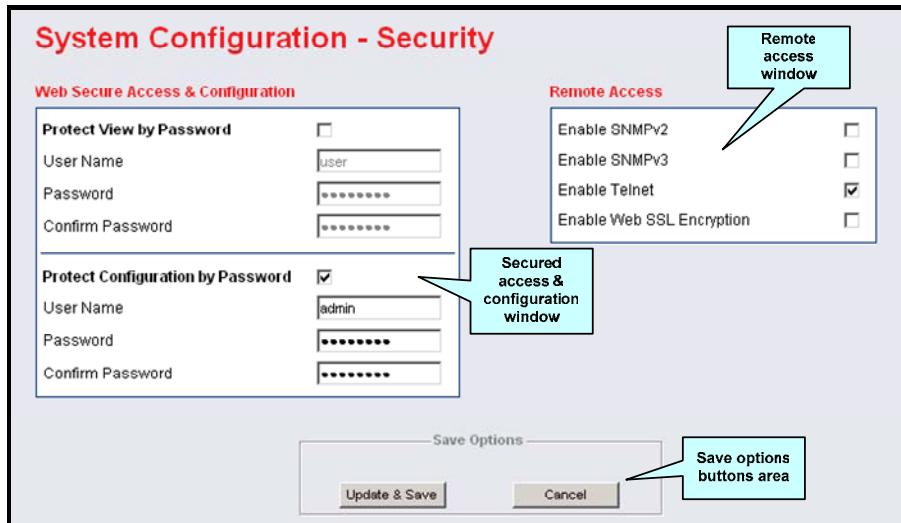

Figure 4-9: System Configuration Security Screen
*System Configuration Security* screen allows Configuration of the following parameters (see Figure 4-9):